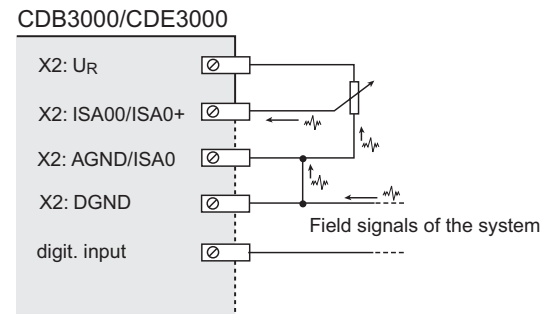

Figure 3.13 Interference on the analog input in the event of defective wiring
**ATTENTION:** The ground connection or routing into the system must not be made via the analog ground (terminal 4 on the CDB3000, terminals 4/6 on the CDE3000). It may only be connected via one of the DGND terminals (see Figure 3.13).